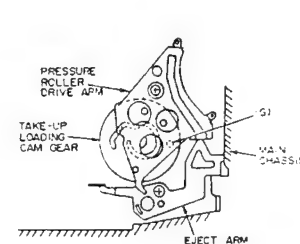

Fig. 3-3
- 4) Install the take-up loading cam gear into the main chassis so that hole (G) of the take-up loading cam gear and the hole in the main chassis overlap each other at this time. (See Fig. 3-3)
- 5) Install the pressure roller drive arm as shown in the figure. (See Fig. 3-3)